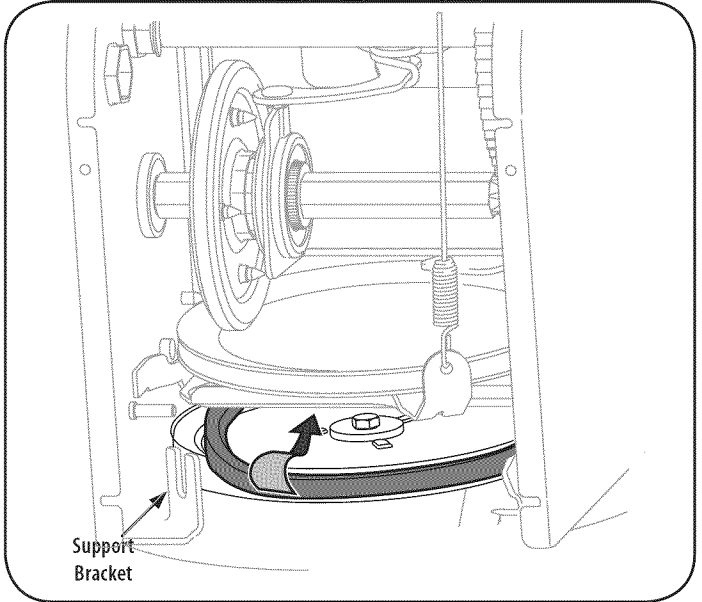
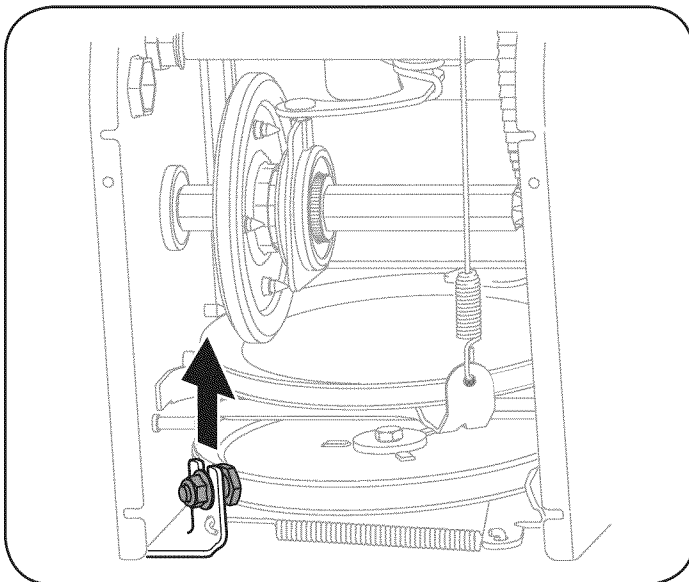

Figure 30
Figure 29
- Loosen and remove the shoulder screw which acts as a belt keeper. Refer to Figure 29.
- Remove the belt from around the auger pulley, and slip the belt between the support bracket and the auger pulley. See Figure 30.
NOTE: Do NOT forget to reinstall the shoulder screw and reconnect the spring to the frame after installing a replacement auger belt. See Figure 29 and Figure 30.